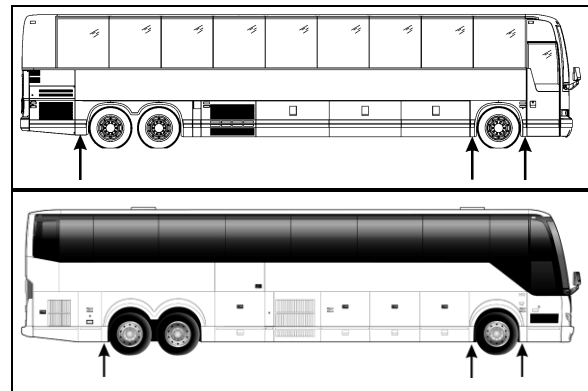

FIGURE 5: JACKING POINTS ON FRAME
1. Raise vehicle by its jacking points on the body (Figure 5 or see Section 18, "Body" under heading "Vehicle Jacking Points"). Place jack stands under frame. Remove drive axle wheels (if required, refer to Section 13, "Wheels, Hubs And Tires".